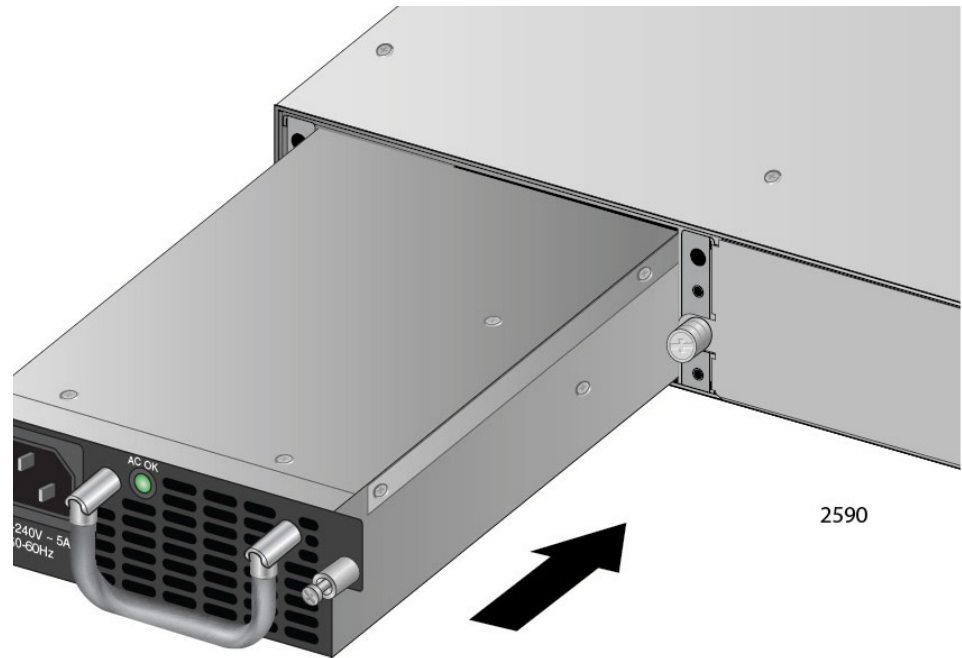

Figure 25. Insert AT-PWR06 Module Into Chassis
4. Slowly insert the AT-PWR06 power supply module into the PSU slot until it is flush with the rear of the chassis. See Figure 25.